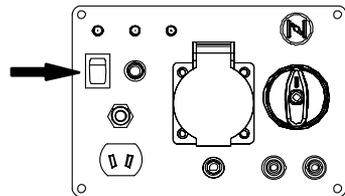

Fig. 3
4. Start first generator and wait for green Ready LED to illuminate. (Fig. 3).